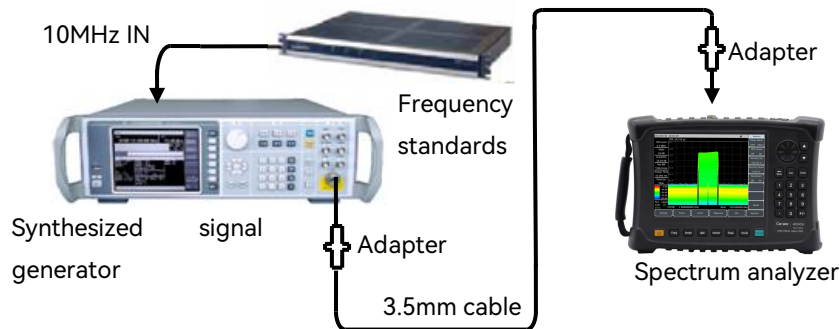

Figure 12-2 Frequency reference accuracy test
- 1) As shown in Figure 12-2, connect the test equipment and the frequency standard output port to the 10 MHz input port of the signal generator to enable external frequency standard ports to provide reference frequencies for the synthesized signal generator. Connect the RF output port of the synthesized signal generator to the RF input port of the spectrum analyzer (**if a frequency standard is not available, a signal generator with a high stability frequency reference option can be used instead**);